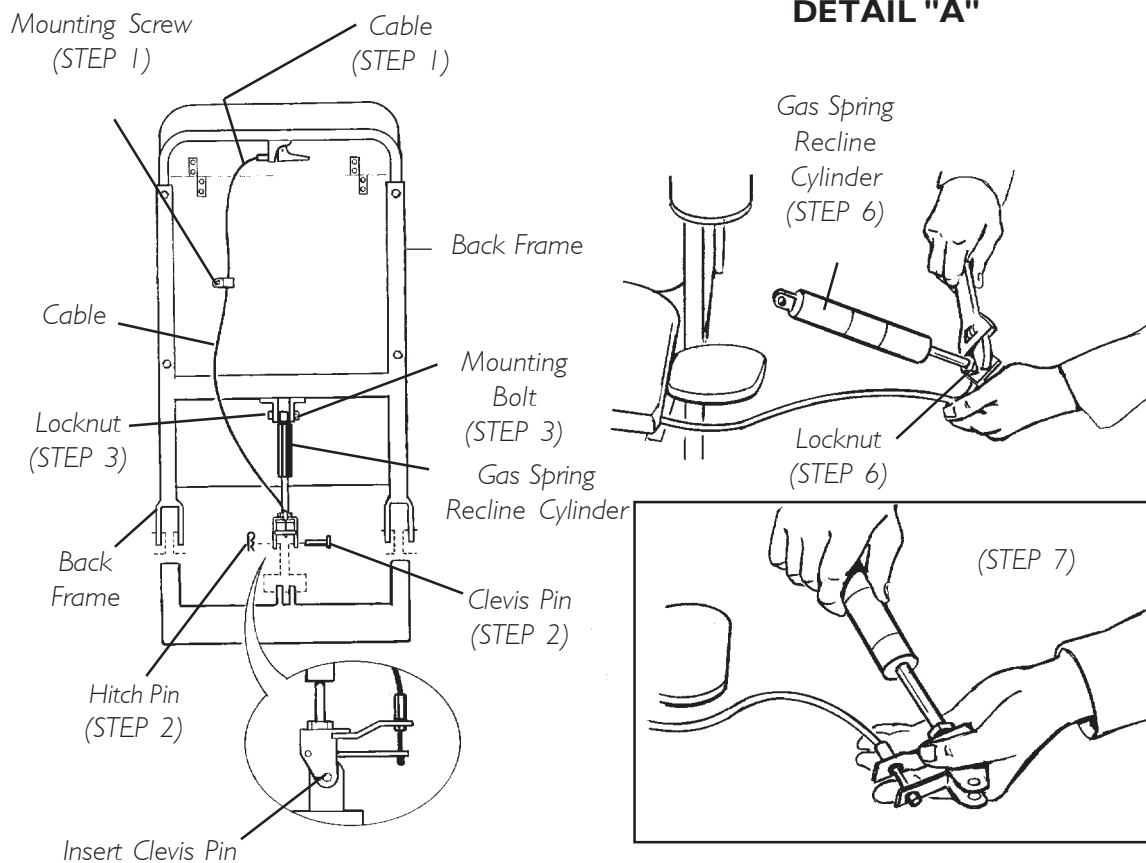

FIGURE 15 - ADJUSTING GAS SPRING RECLINE CYLINDER ASSEMBLY 6908A
ADJUSTING GAS SPRING RECLINE CYLINDER ASSEMBLY - MODEL 6908A ONLY (FIGURE 15)
REPLACING THE RELEASE HANDLE AND CABLE ASSEMBLY (FIGURES 15 AND 16)
3. Remove the mounting screw that secures the cable to the back frame (FIGURE 15).
8. Secure the cable assembly to the back frame with mounting screw (FIGURE 15). Securely tighten.